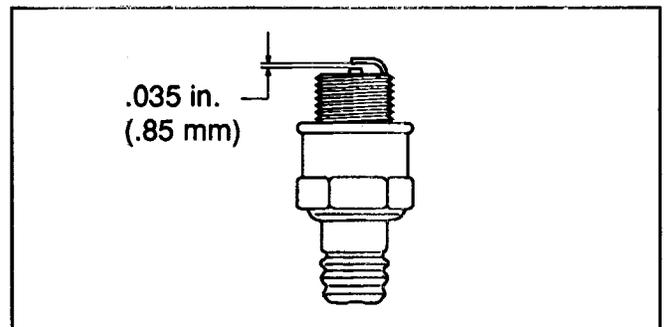

Figure 4
1. Set spark plug gap at 0.035 inch (.85mm). See **Figure 4**.